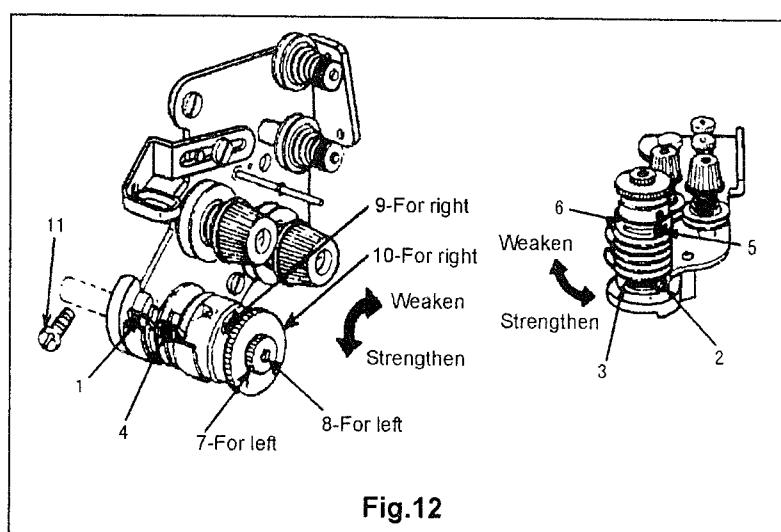

Fig.12
13.Adjusting thread take-up spring (Fig.12)